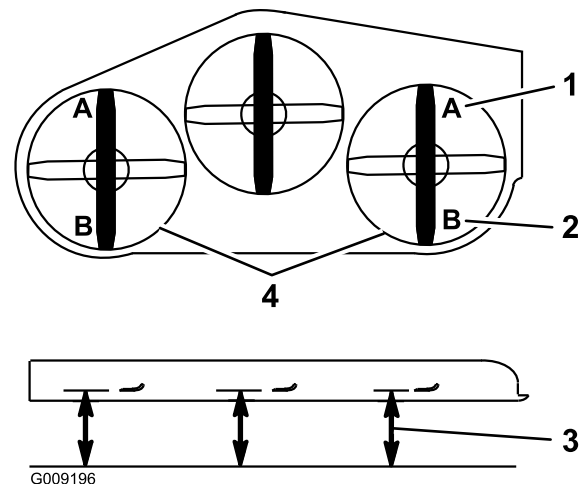

Figure 93
9. On both sides of the deck, measure from the level surface to the front tip of the blade (Position A). The measurement should read 7.6 mm (3 inches); refer to Figure 93.
16. On both sides of the deck, measure from the level surface to the back tip of the blade (Position B). The measurement should read 8.3 cm (3-1/4 inches); refer to Figure 93.